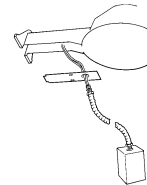

Fig. 1
Step 2: Install the two bottom mounting screws (E) first, leaving enough room between the mounting screws and the mounting surface to slide the fixture into position.
Step 3: Screw the top mounting screw (E) into the predrilled hole and back the screw out. This will leave the hole threaded and make installation of the fixture easier.
Step 5: Remove the access cover (C) from the hardware bag. With a hammer and screwdriver, remove the round knock-out from the access cover (be careful not to damage the access cover).
Step 6: Install the first conduit connector (not included) into the knock-out area of the access cover (Fig 1). Tighten with adjustable wrench.
Step 7: Connect second conduit connector at the junction box (Fig. 1).